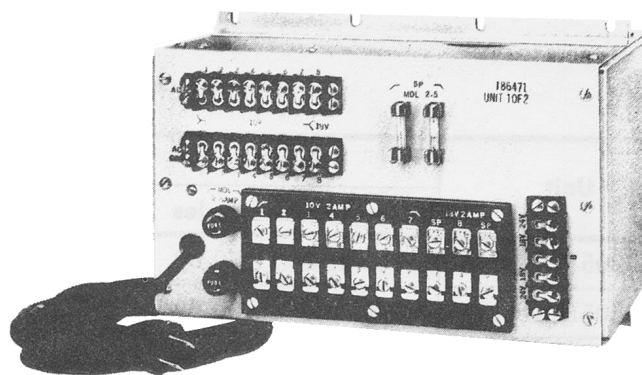
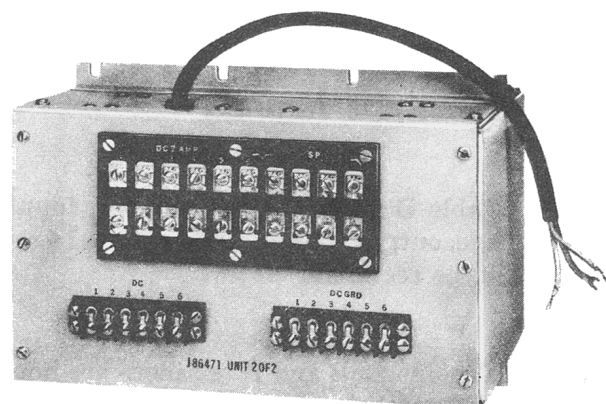

Fig. 7 — J86471A, List 1 AC Unit
Fig. 8 — J86471A, List 1 DC Unit
6.02 The 101J power plant consists of two units, a J86471A, List 1 ac unit (see Fig. 7) and a J86471A, List 1 dc unit (see Fig. 8).